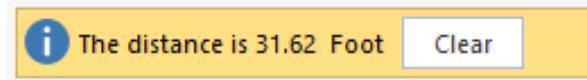

Figure 7-17
- In the **Message Bar** the program will display the measurement between these two points which is 31.62 as shown in **FIGURE 7-17**.